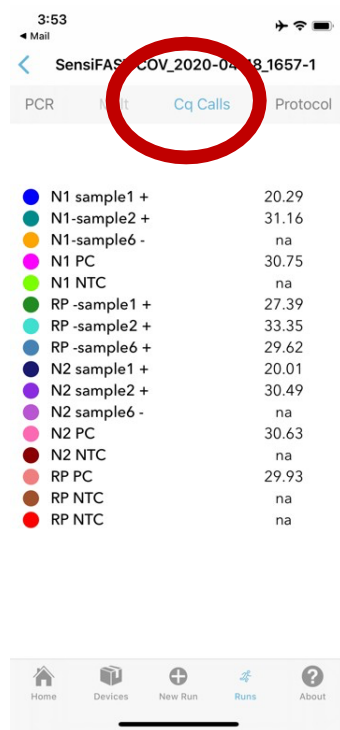

Figure 20: Cq Data screen for Selected wells.
1.5.2. **Swipe from right to left** on the run of choice to bring up a selection of data retrieval options (**Figure 20**).